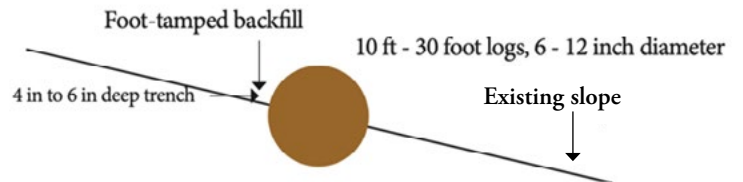

Figure 3. Typical log and bedding detail (NRCS, 2017).
9. Place the log in the trench and backfill with trenched soil to prevent water from cutting under the log (Figure 3).